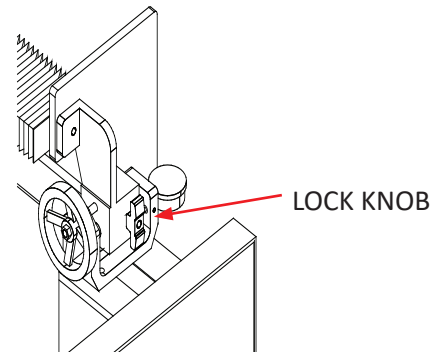

FIG. 34
2. Check the right side adjuster. The dial indicator should read .500. If not, loosen the lock knob and adjust the handwheel until the dial indicator reads .500 and tighten the lock knob. See FIG. 34.